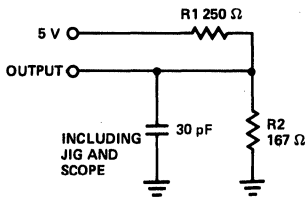

Figure 1a
7. Test conditions assume signal transition times of 5 ns or less, timing reference levels of 1.5V, output loading of the specified  $I_{OL}/I_{OH}$  and loads shown in Figures 1a, 1b.